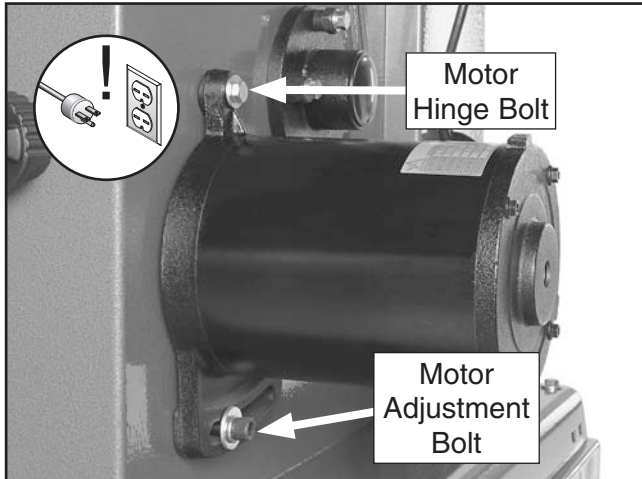

Figure 45. Motor mount bolts.
2. Loosen the motor mount bolts shown in **Figure 45**.